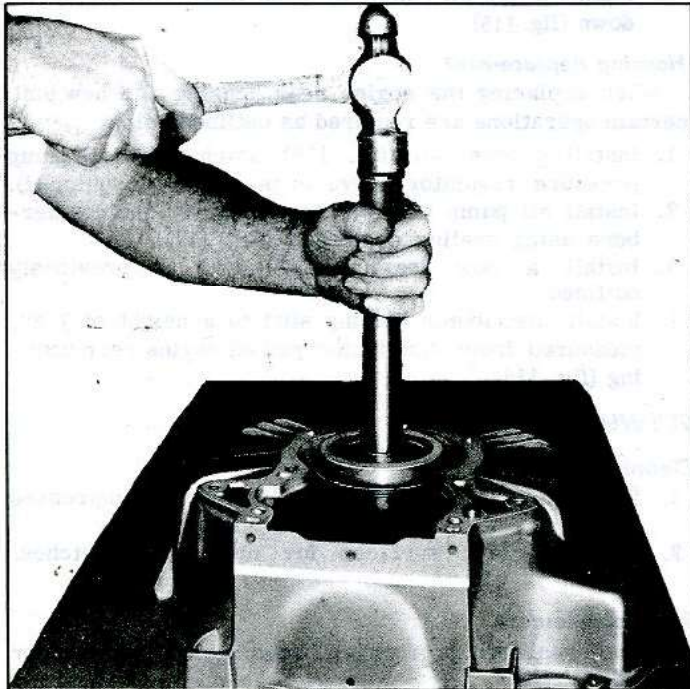

Fig. 118—Installing Flywheel Housing Seal
3. Lubricate seal outer surface (beaded area) with lubriplate or petrolatum and install with Tool J-21768 used with Tool J-8092 (fig. 118).